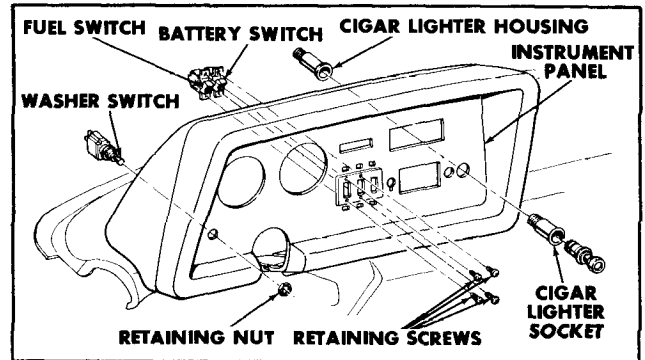

Figure 5—Battery and Fuel Switch Installation
2. Remove the (2) switch retaining screws shown in Figure 5.
3. Remove the rear instrument panel cover by removing the (2) screws at each side of the rear panel cover. Lift rear panel cover up and work out of instrument panel.
5. Turn the lighter housing (rear) counter-clockwise while holding the front portion, remove the lighter assembly when the (2) pieces disengage. (See figure 5)